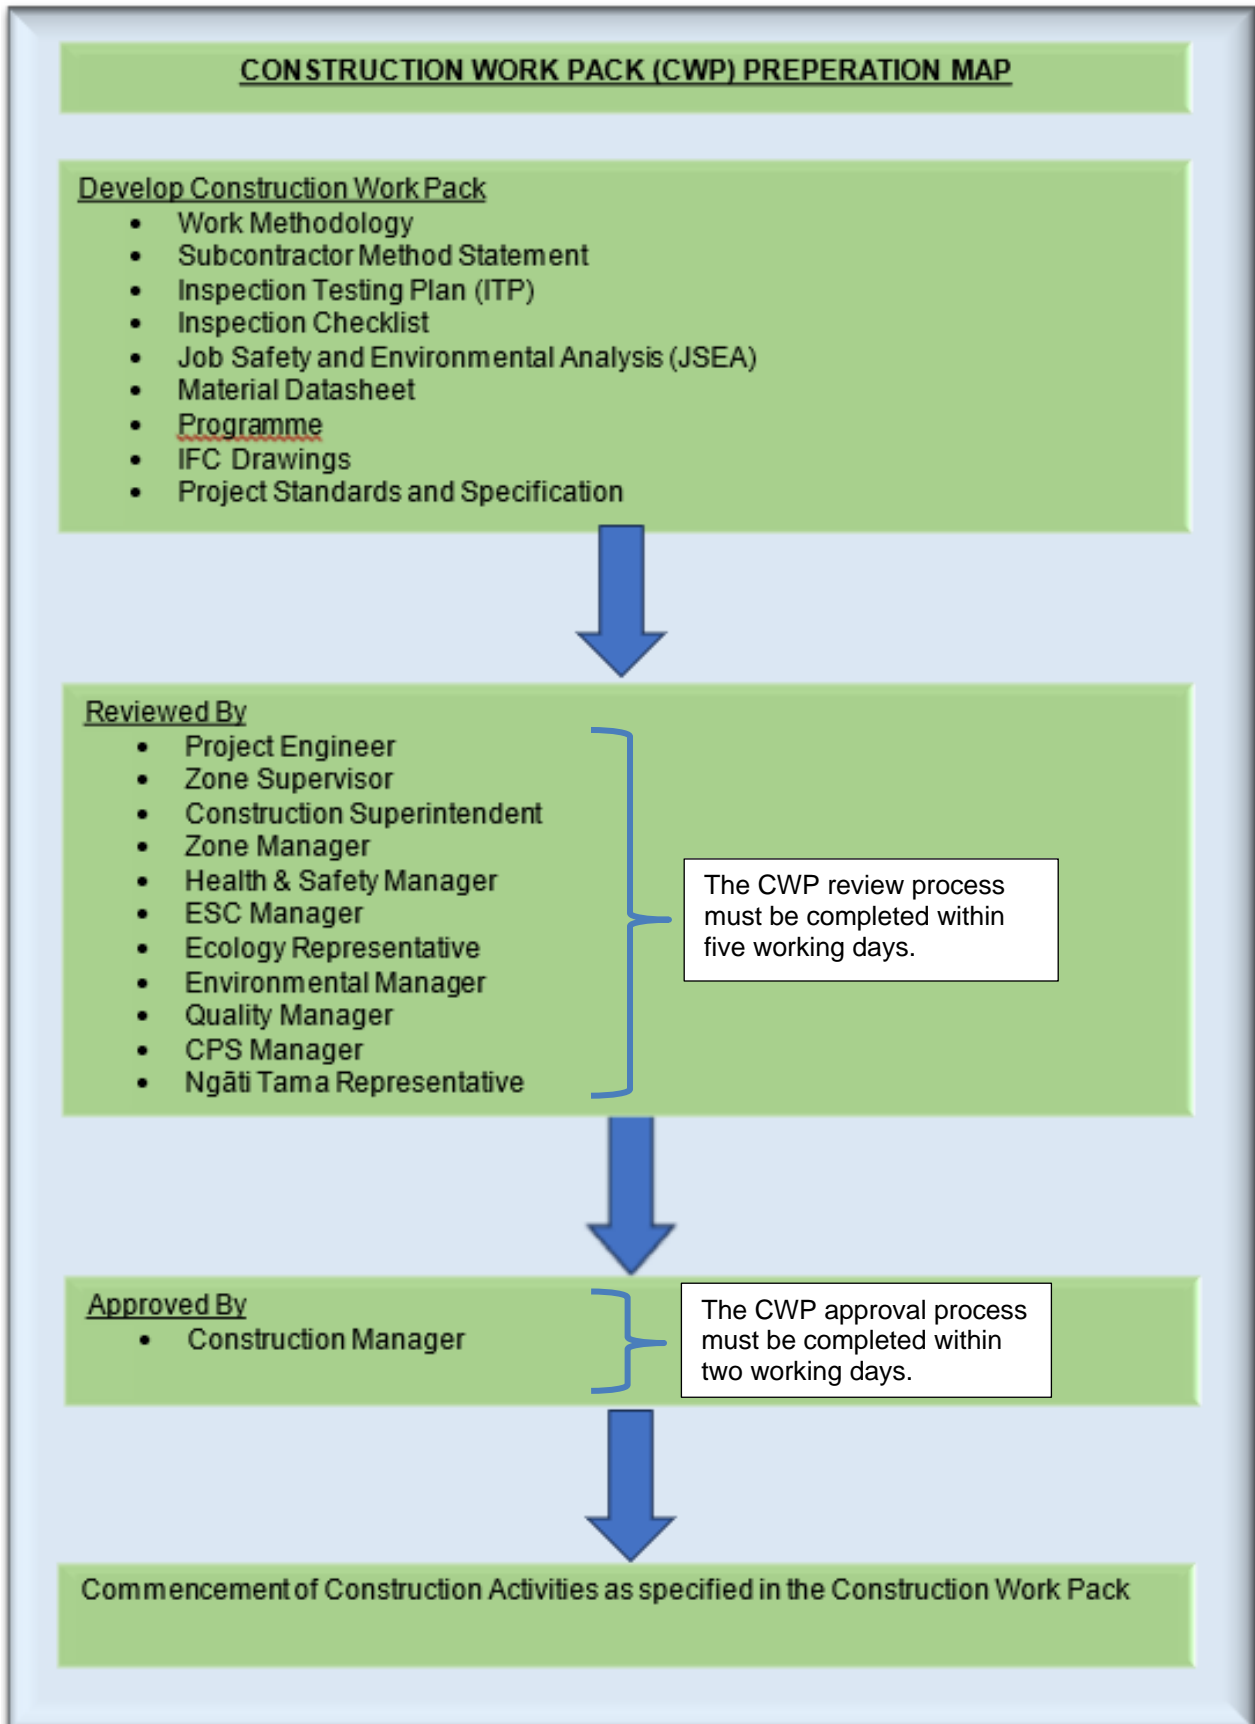

Figure 6
- Once the Construction Work Pack has been updated, the revision will be 'revved up' and sent for the review and approval process, as detailed in Figure 6.
Once the CWP is approved through the process as outlined in Figure 6 above, it will be submitted to all relevant parties via InEight.